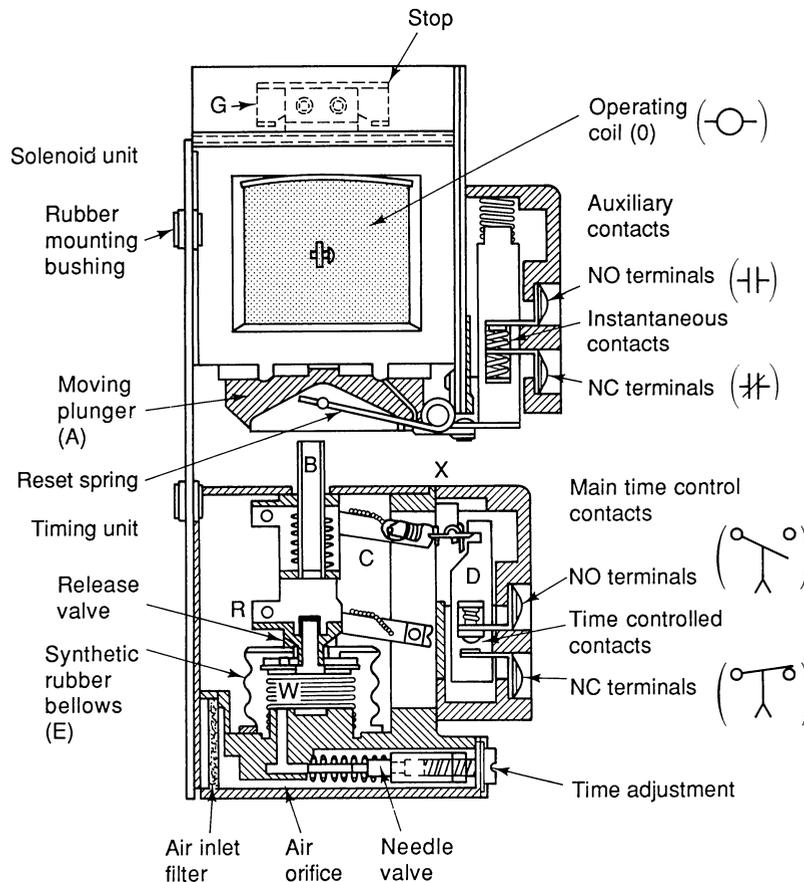

Fig. 9-16 AC on-delay timer with coil energized and timer timed-out. (Allen-Bradley)
time delay when it is energized, and off-delay, which means that the relay is de-energized when it provides time delay. Figure 9-16 shows the on-delay arrangement in an Allen-Bradley relay. When the operating coil (O) is energized, solenoid action raises the solenoid plunger (A). The pressure on the rod (B) is released. A spring (W) is located inside the bellows (E). The spring then allows the pushrod (B) to move upward. As (B) moves upward, it causes the off-center linking mechanism (C) to move the end of the snap-action mechanism (X) upward. This action, in turn, raises (D) to operate the switch or time-controlled contacts.
The off-delay mode in this Allen-Bradley relay is shown in Fig. 9-16 with the solenoid rotated 180°. When the operating coil (O) is energized, plunger (A) is held down and (G) pushes against (B). That holds the